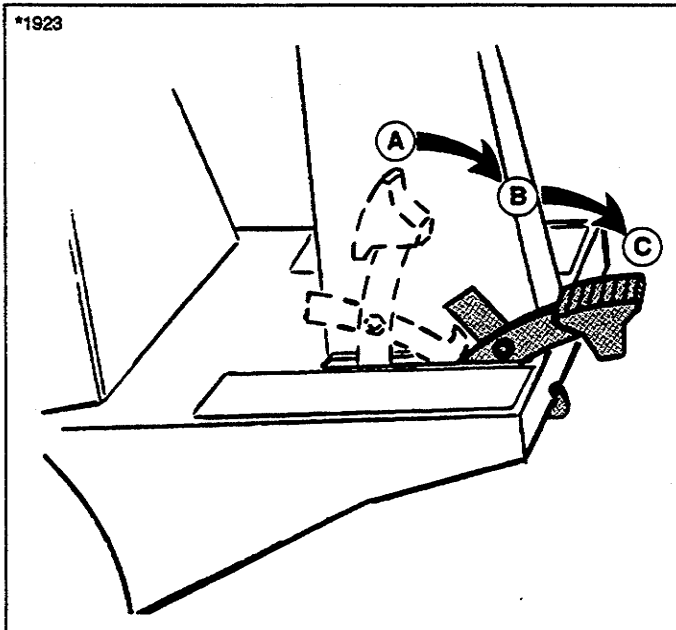

Figure 12. Clutch/Brake Pedal
2. Remove hardware securing belt covers to mower deck. Refer to figure 12. Remove belt covers. Diagram is located on underside of belt cover.
1. See figure 12. Depressing the pedal from position A to B disengages the transmission. Fully depressing the pedal to position C applies the tractor brake.
2. Parking brake is applied at pedal position C when pedal is latched over footrest as shown in figure 12.